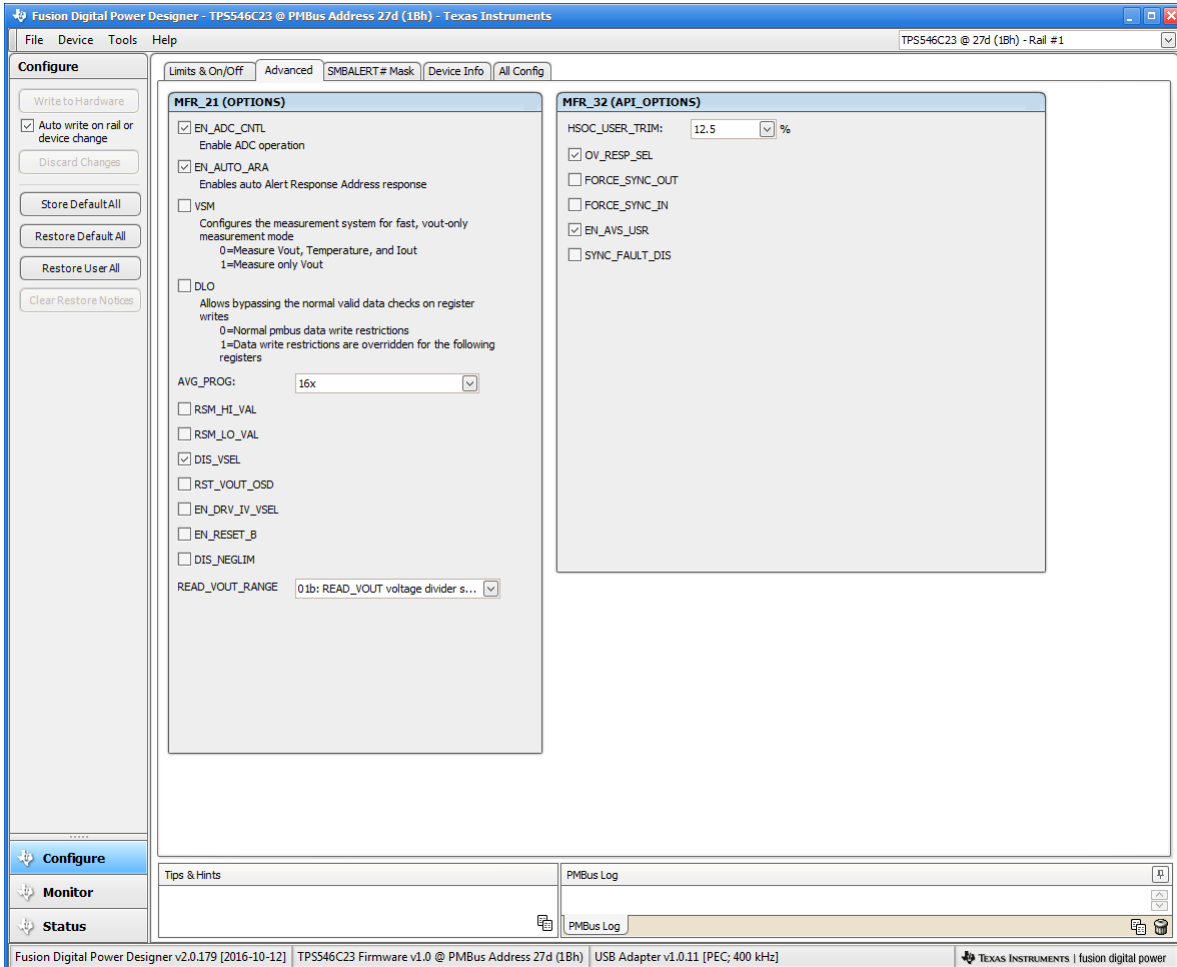

Figure 10-4. Configure – Advanced
- Use the **Advanced** tab (Figure 10-4) to configure: